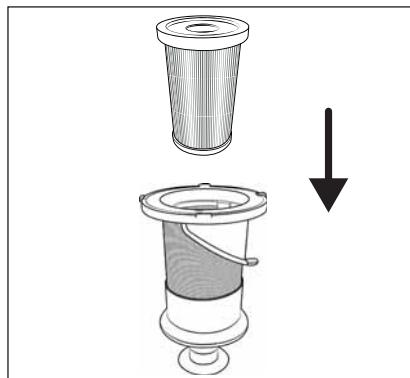

Fig. 22
- Do not turn the stainless steel filter ⑤ while inserting it into the dust container ⑥. Pay attention to the two markings on the stainless steel filter ⑤ and on the dust container ⑥ to insert the stainless steel filter ⑤ correctly.
- 7) Insert the HEPA filter ④ into the stainless steel filter ⑤ (see Fig. 22).